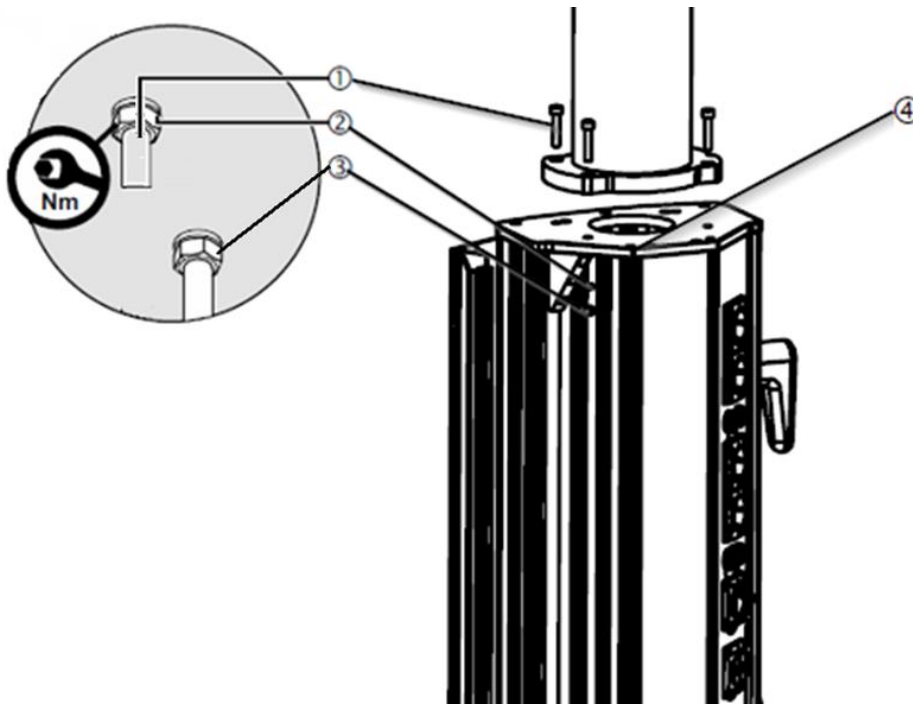

Fig. 19 Disassembly / assembly of the service head on the drop tube.
- Pass the gas hoses through the upper hole of the service head. See figure 19.